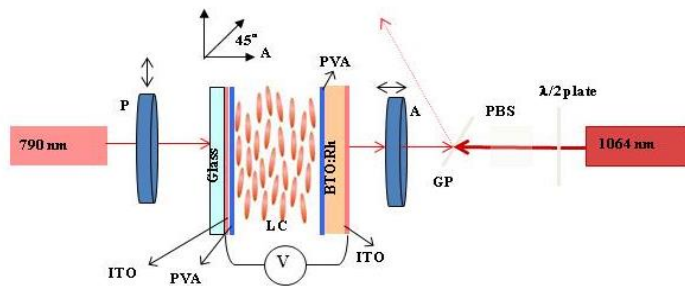

Figure 2
**(a) Volume holographic materials and applications:** We explore new and better materials for volume holographic recording. One example is to investigate a doped photopolymer material, which consists of the strong host polymer matrix and ultrasensitive doped elements. It provides the negligible photoinduced shrinkage (less than  $10^{-5}$ ) and different functionalities for volume holographic applications. (Figure 2).